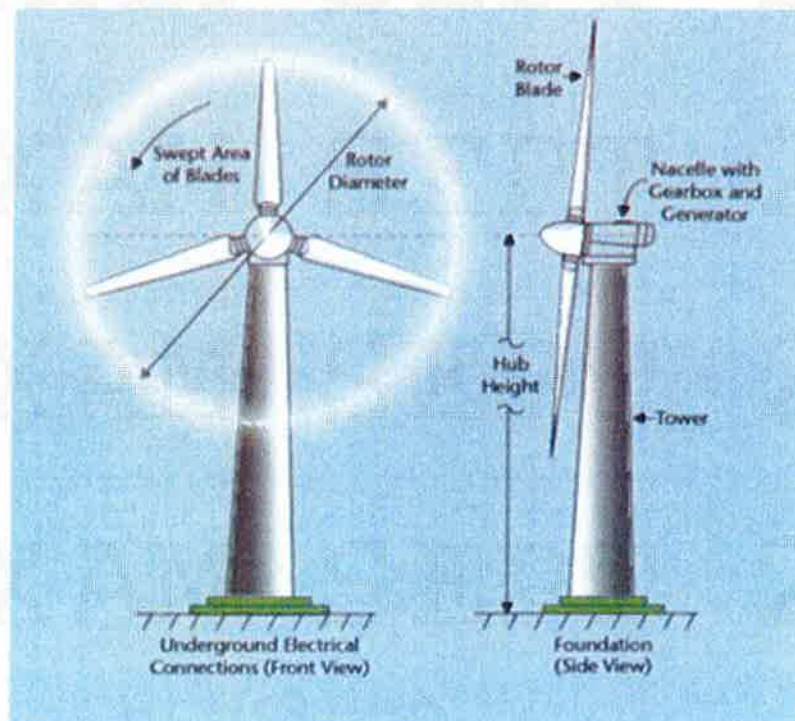

FIGURE Q1b
- b. **FIGURE Q1b** shows a wind turbine's front and side elevation; the rotor diameter is 70 m, and the hub height is 100 m. The turbine is installed at the prevailing wind speed of 70 km/h. At the proposed location at 50 m height, the recommended wind speed is 12.5 m/s, whereas the air density is  $1.2 \text{ kg/m}^3$ . Estimate: